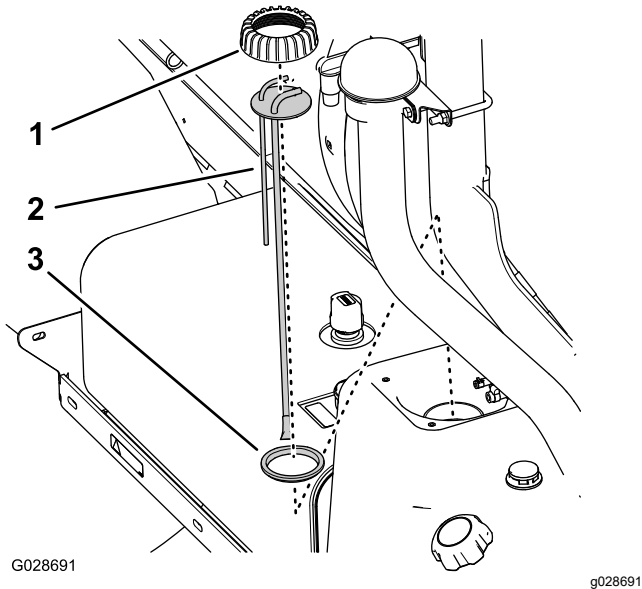

Figure 82
5. Rotate the fuel-standpipe/sender cap counterclockwise, then remove the cap (Figure 82).
6. Lift the fuel-standpipe/sender assembly from the fuel tank (Figure 82).
1. Assemble the standpipe cap over the standpipe and the standpipe to the seal (Figure 82).
2. Align the cap, standpipe, and seal to the tank, and carefully insert the new stand-pipe assembly into the fuel tank (Figure 82).
3. Thread the cap onto the neck of the fuel tank and tighten the cap hand tight (Figure 82).